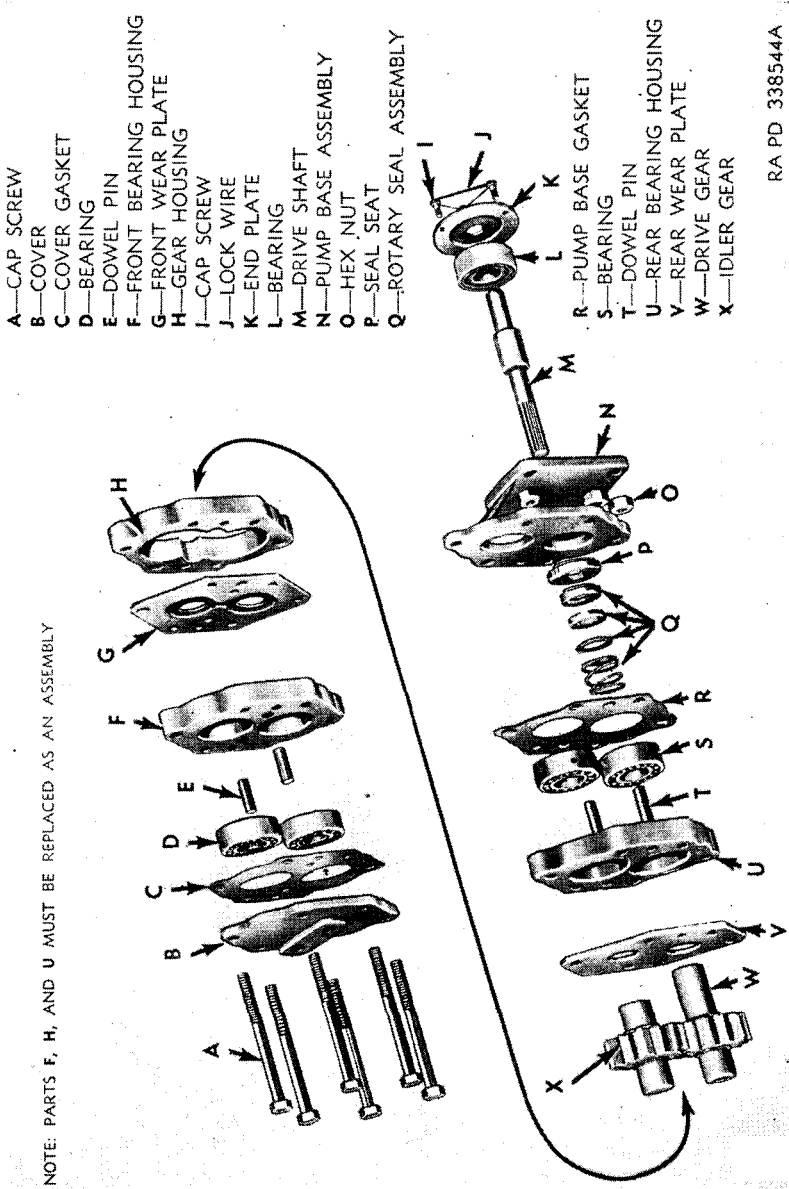

Figure 64. Hydraulic pump—disassembled.
b. INSPECTION AND REPAIR. (1) Disassemble the rotary seal assembly as shown in figures 64 and 69 and inspect the seal. Replace the complete seal assembly if the seal is defective.
a. GENERAL. Before assembling the pump, make certain that all parts are clean and free from burrs. Place the various parts of the pump on a clean bench in the order in which they are to be assembled (fig. 64).